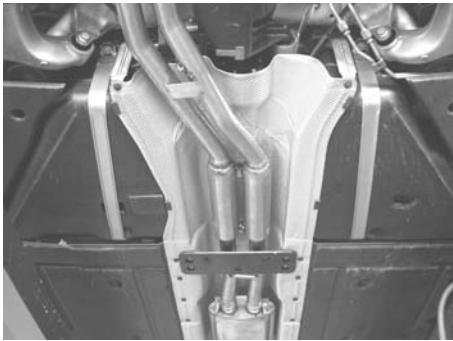

**Figure 6**
1. Place the front muffler assembly in position as shown in figure 6 and secure the flanges finger tight using the original hardware.